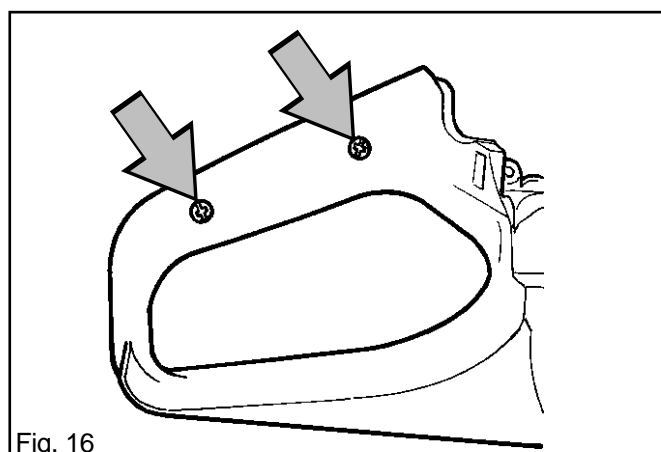

Fig. 16
2. Disconnect the leads, remove the bolts as shown in fig. 16 and remove the heating element.
3. Insert the new heating element, replace the bolts as shown in fig. 16 and reconnect the cables.